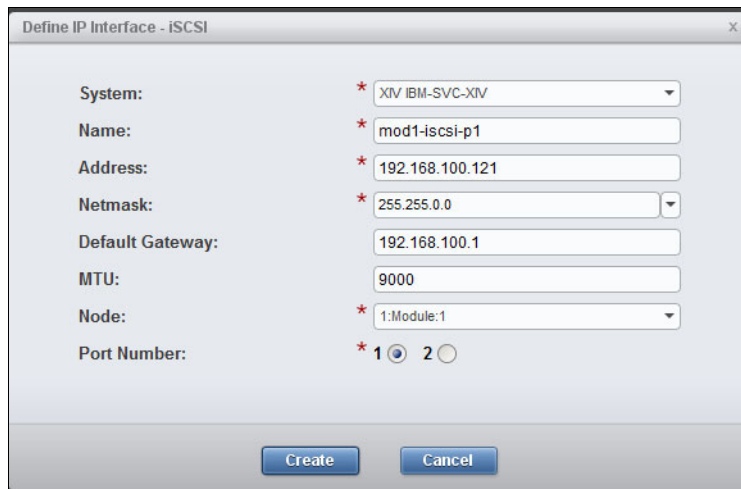

Figure 13-3 Defining an IP interface for iSCSI
2. In the window that opens (Figure 13-3), enter the parameters for one iSCSI target port: